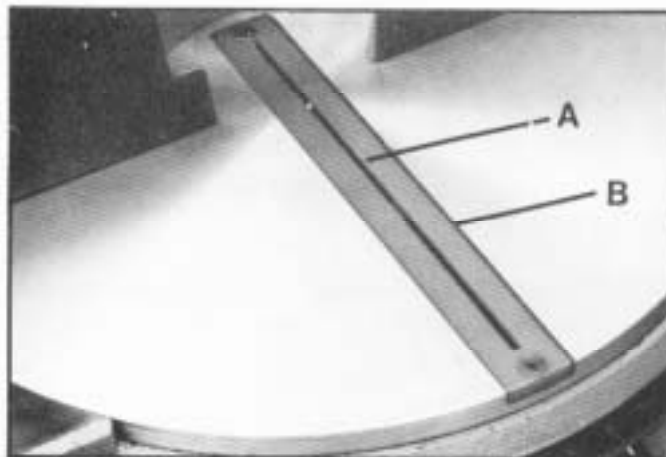

Fig. 36
The blade slot (A) Fig. 36, in the table insert (B) was cut at the factory with the same thickness blade that is supplied with your saw, and acts as a chip breaker preventing splintering of the wood at the bottom of the cut.